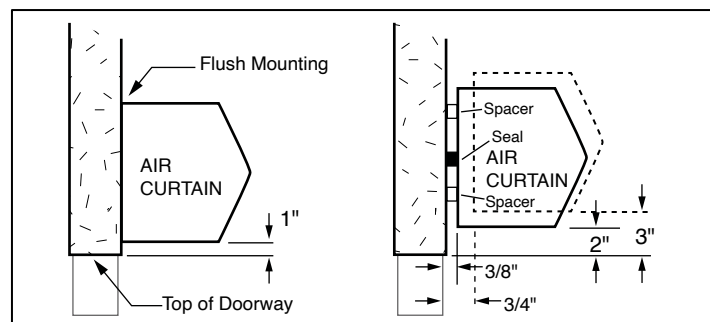

FIGURE 3 - Positioning of Air Curtain
- For optimum performance, the bottom of the unit (discharge nozzle) should be no more than 1" above the top of the door opening with the unit mounted flush to the wall. If the unit must be mounted higher, it must be **spaced out** from the wall **3/8" for every inch** the unit is above the door opening. Any void between the air curtain and the wall should be sealed along the full length of the unit. **See FIGURE 3.**